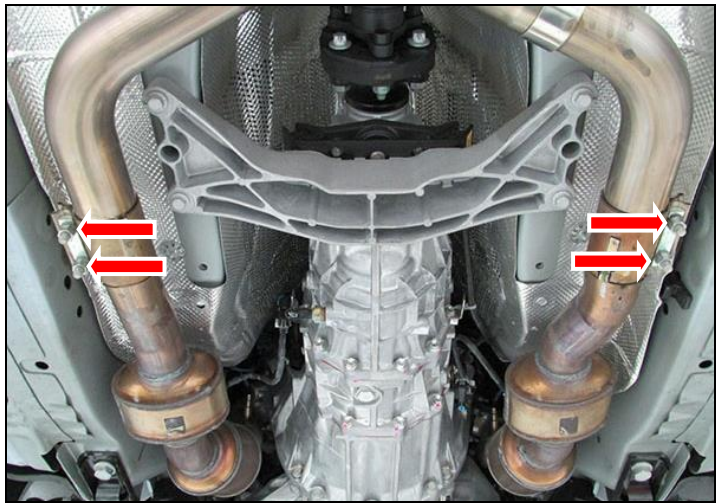

Figure 2
4. Loosen the left and right side band clamps securing the OE mid pipes to the catalytic converters (**Figure 2**).